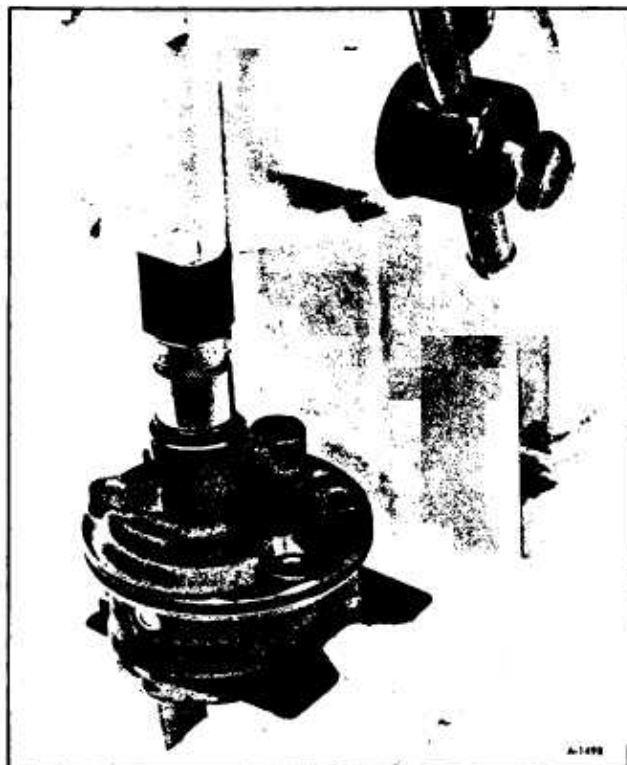

Figure 16—Installing Shaft Seal
1. Install new pump shaft seal using seal protector J-22616 and seal installer J-7728 or a 1 inch socket with an arbor press or hammer. (figure 16). Do not use any more force than necessary to seat the seal.